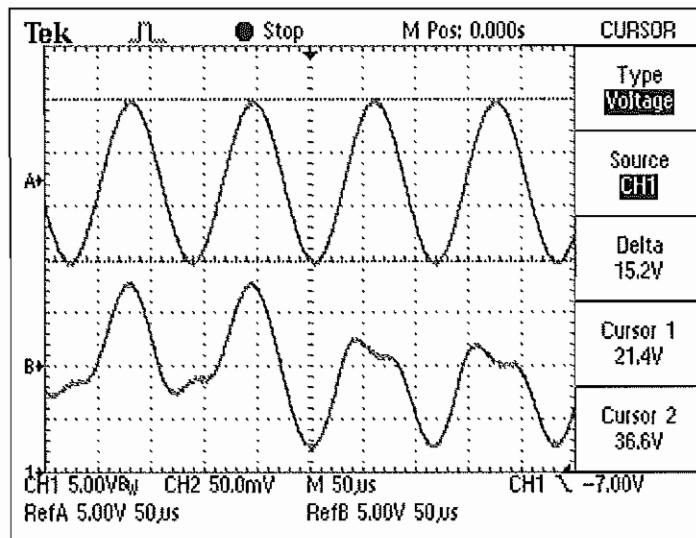

Figure 4.2: True velocity signal (A) and signal when the tracking filter loses lock (B)
- For average velocities and frequencies, the acceleration limits of the tracking filter have to be taken into account. The optimum setting has to be found using the range diagram. If the velocity or acceleration limit of the tracking filter is exceeded, then the internal phase-locked loop loses lock. The signal is then distorted roughly. In FIGURE 4.2 you can see an example of an oscillogram showing a distorted signal. Signal A shows a sinusoidal velocity signal with the tracking filter switched off. Signal B shows the same signal with the tracking filter switched on in mode slow (Slow). Here the tracking filter is at the limit of losing lock and the signal is partially being distorted.